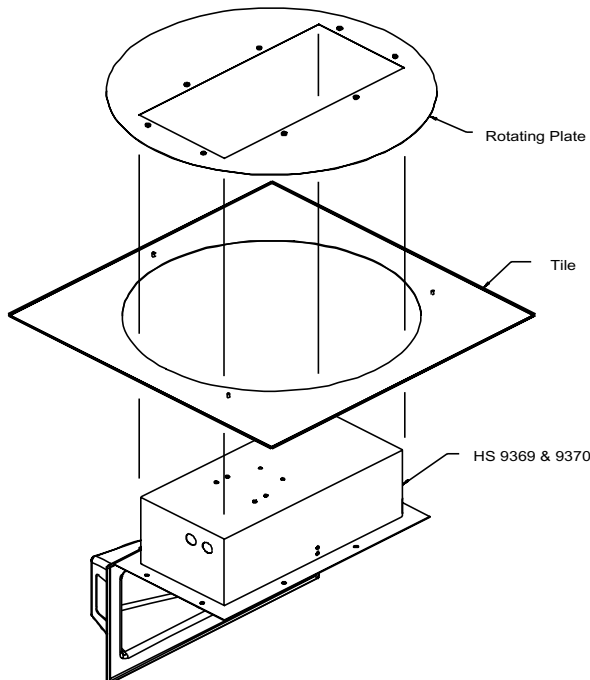

Figure 3: Assembling Mounting Kit
5. Position the tile through the backbox making sure the painted side of the tile is towards the cover. **See Figure 3.**
6. Slide the rotating plate over the backbox and on top of the tile. Again, keep the painted side towards the cover. See Figure 3.